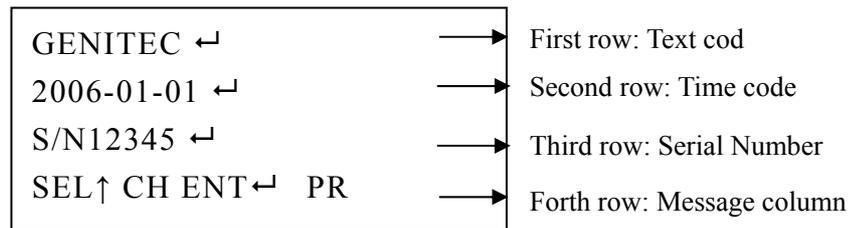

Figure 34
1. Bar code image as below (figure 34) :
- (1) Press the button , your chosen size is 85*45mm; and then it will back to bar code main page (Refer to figure 34)。
- (2) Press the button , your chosen size is 70*30mm; and then it will back to bar code main page(Refer to figure 34)。
- (3) Press the button  to remain the same setting, and then it will back to bar code main page (Refer to figure 34)。
5. After finished your demand paper size, the page will skip to bar code main page (Please refer to figure 34)。